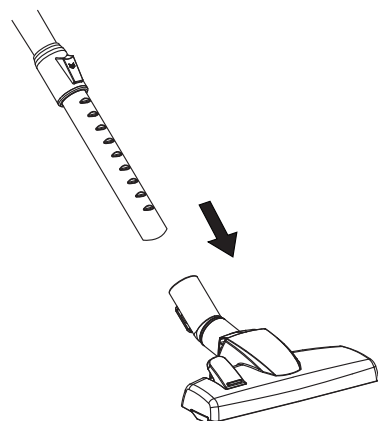

Fig. 4
- Insert the upper hose of cleaner head into the tube. (Fig. 4)